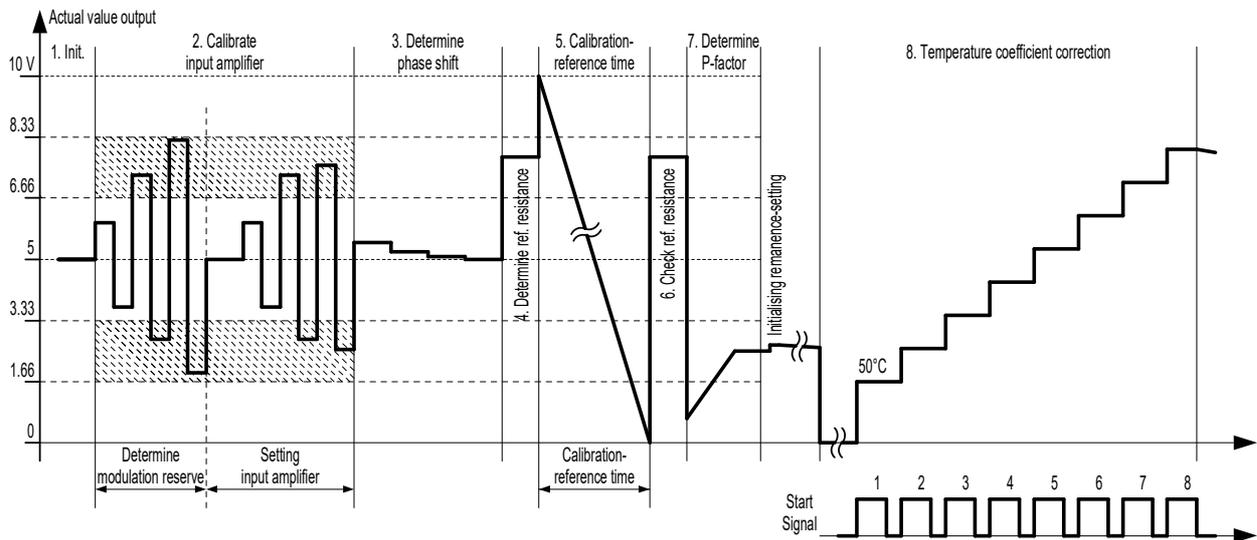

Figure 1: Calibration process
- **without 8-point Tc correction:** By observing the actual value on the characteristic voltage curves (→ Figure 1, steps 5, 6 and 7 with subsequent remanence and subsequent cooling of the heating conductor from approx. 50 °C to approx. ambient temperature).